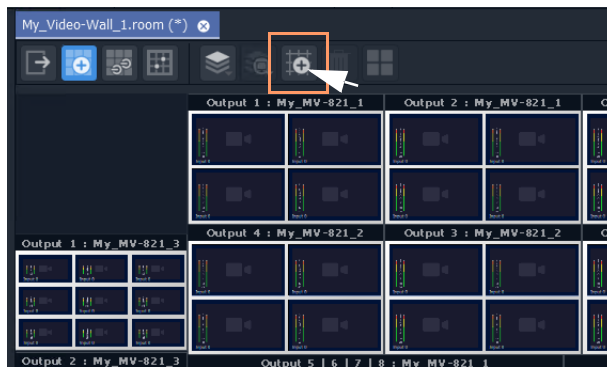

Fig. 15-37: Freehand Positioning Icon
- 1 Click on the **Freehand Positioning** icon (see Figure 15-37).